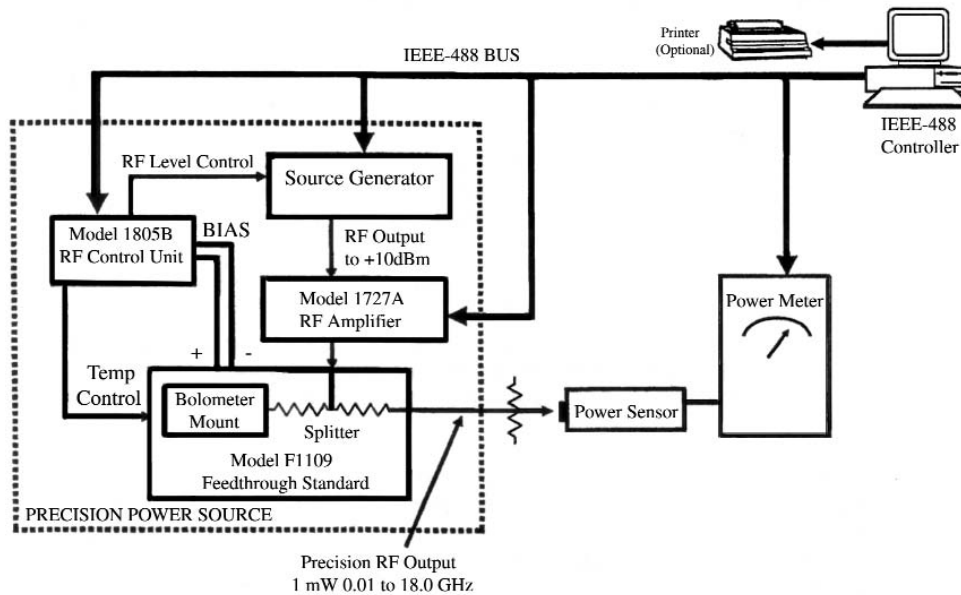

Figure 4-1 Closed Loop Stability Setup
- a. Setup equipment as shown in Figure 4-1. Listed below are the point-to-point connections: